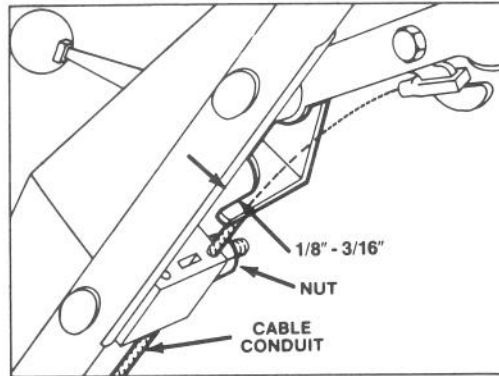

Figure 15
2. CHECK ADJUSTMENT (Fig. 15) — Move control bar toward handle until slack in wire is removed. Gap between brake lever and handle must be $1/8'' - 3/16''$. See step 3 for adjustment.
3. ADJUST CABLE CONDUIT — Loosen nut on cable bracket (Fig. 15). Insert $1/8'' - 3/16''$ object between brake lever and handle. Pull down on cable conduit until slack is removed. Then tighten nut.